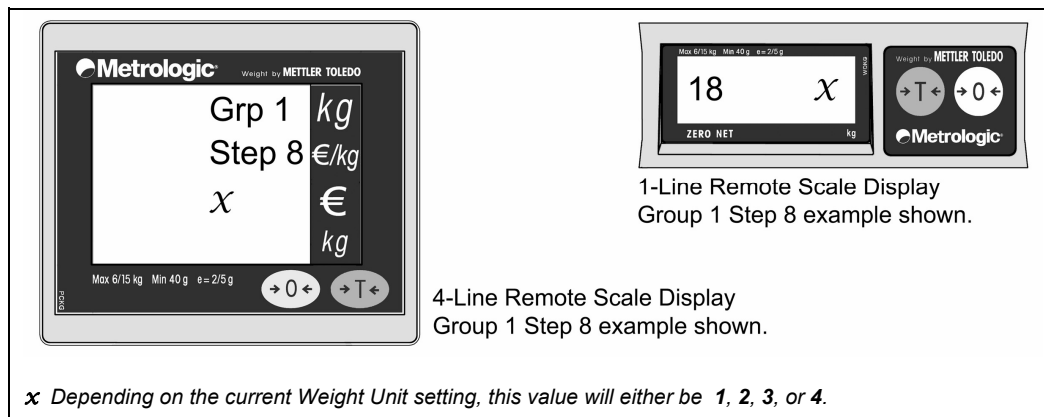

Figure 45. Remote Scale Display Group 1 Step 8 example shown
- Go to **Group 1 Step 8** (Weight Unit) of the Service Mode by pressing the Zero ($\rightarrow 0 \leftarrow$) key several times until 'Group 1 Step 8' is displayed on the Remote Scale Display screen (see Figure 45 below).